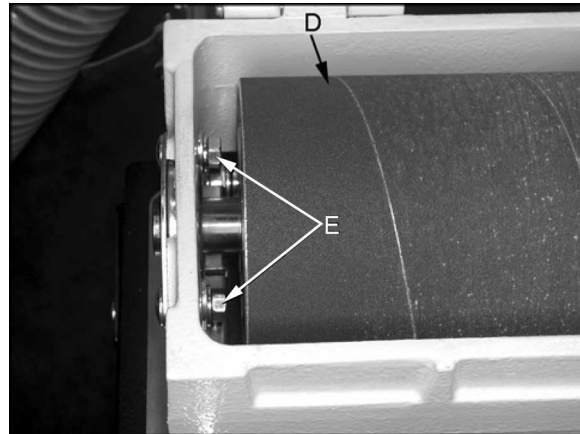

Figure 24
1. Unplug sander from power source and remove abrasive (D, Figure 24) from drum.
2. Loosen all four hex nuts on the bearing bolts (E, Figure 24). This will allow both tension rollers to drop to their lowest position. (NOTE: Figure 24 only shows outboard end of drum. Adjustments must be made on *both ends* of drum.)
4. Tighten the four hex nuts (E, Figure 24). Both tension rollers are now positioned about 1/16" below the bottom of the sanding drum.
2. If both tension rollers are causing snipe then tighten all four hex nuts (E, Figure 24) at this position.